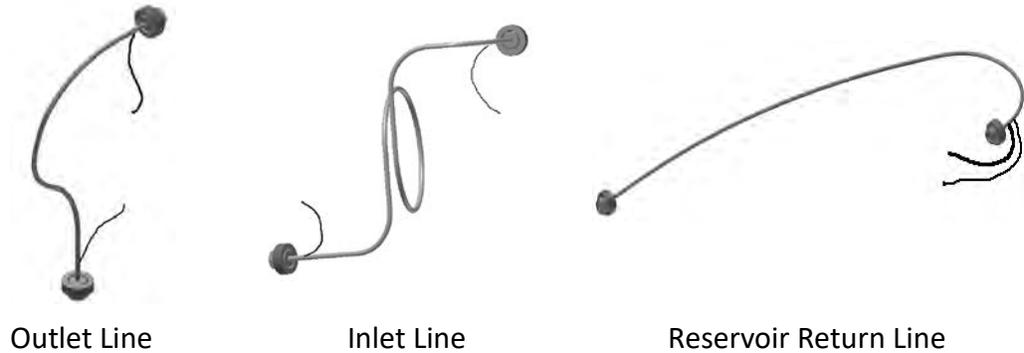
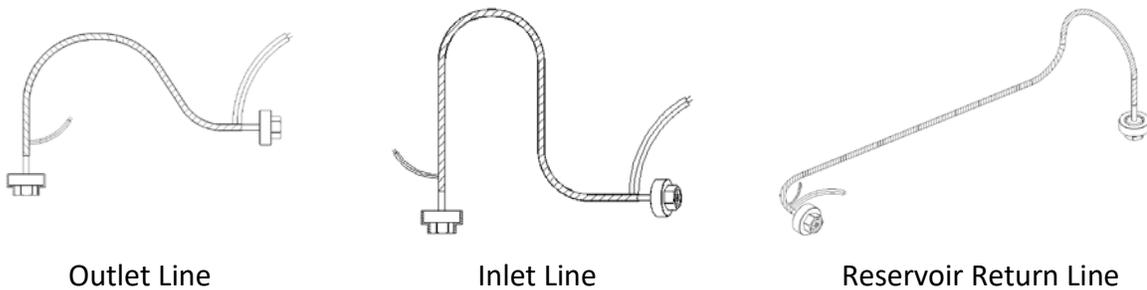

Figure F1 – Pull heated line set
Figure F2 – Push heated line set
The use of heated lines eliminates any test fluid heat loss as it flows through the system and keeps the test fluid's viscosity constant so that it can be pumped through the system. This option is to be used with high viscosity fluids and requires that the standard tubing lines be removed and the optional heated lines be installed. There are two (2) heated line options available for each reservoir type, one that 'pulls' the fluid through the heater tube assembly (figures F1 & F3) and one that 'pushes' the fluid through the heater tube assembly (figures F2 & F4). Each option (sold separately) consists of four (4) tubing line assemblies. Only three (3) of the lines will be used depending on system configuration.